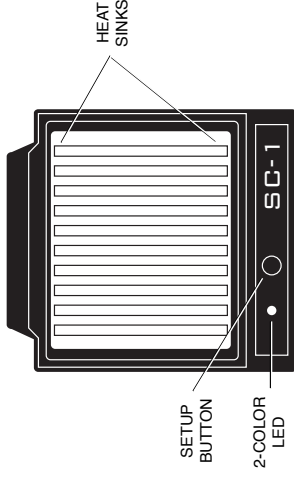

Figure 5
5. Solder the third capacitor from the positive to the negative motor tabs (see Figure 5).